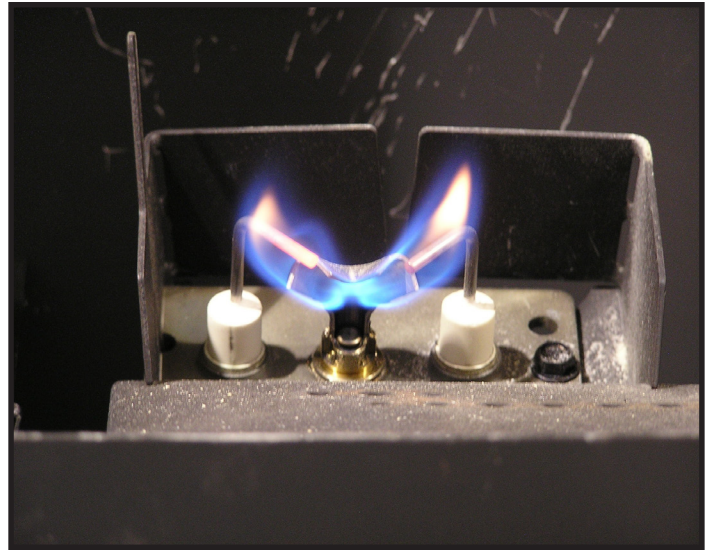

Figure 3.1 - IPI Pilot Flame Patterns
- Inspect pilot flame pattern and strength. See Figure 3.1 for proper pilot flame pattern. Clean or replace orifice spud as necessary.